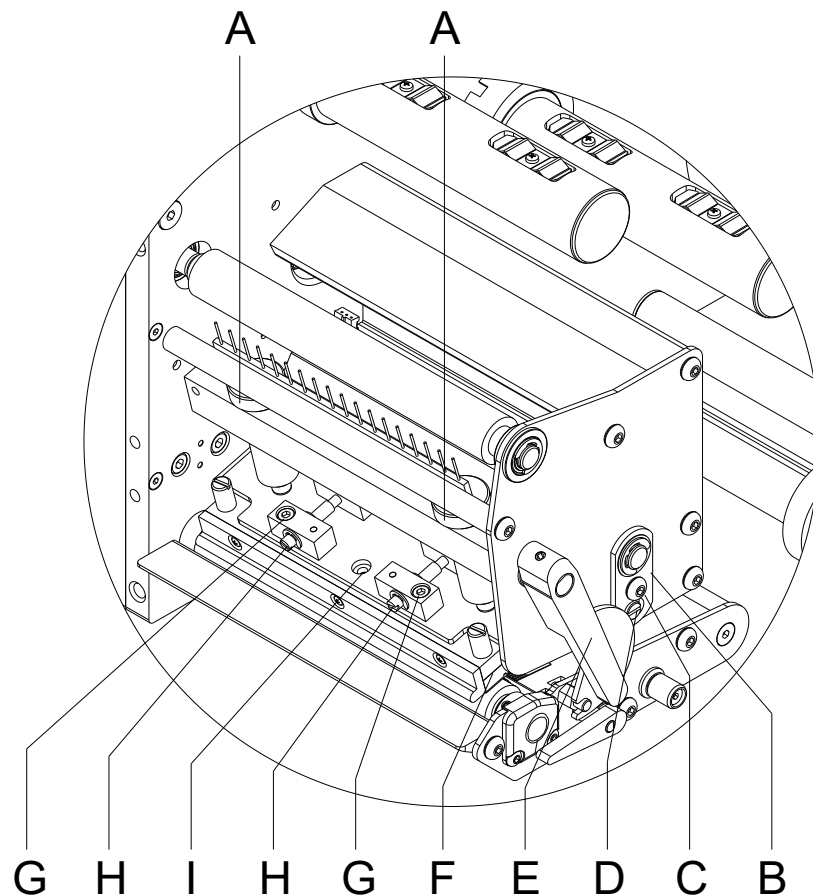

Figure 29
After adjusting parallelism and no even strong pressure exists over the complete print width, by means of a plate (B, Figure 29) you can set the balance.
5. Loosen the screw (C, Figure 29) with a screwdriver by approx. ¼ rotations.
6. To achieve a pressure balance, turn the eccentric bolt (D, Figure 29) as long as the printing result comes up to your full expectation.
7. Tighten again the screw (C, Figure 29).
Change the head contact pressure with the screws (A, Figure 29) at the inside and outside of the printhead. Increasing the pressure of the head contact leads to an improvement of the print image density on the corresponding side and to a shifting of the ribbon feed path in the corresponding direction.
4. Turn the pressure screws (A, Figure 29) to change the pressure of printhead.
5. Turning of pressure screws (A, Figure 29) as far as they will go in clockwise direction results in a pressure increase of 10N in contrast to the factory setting.
6. Turning of pressure screws (A, Figure 29) exactly one rotation from the right stop position counter-clockwise results in the factory settings.